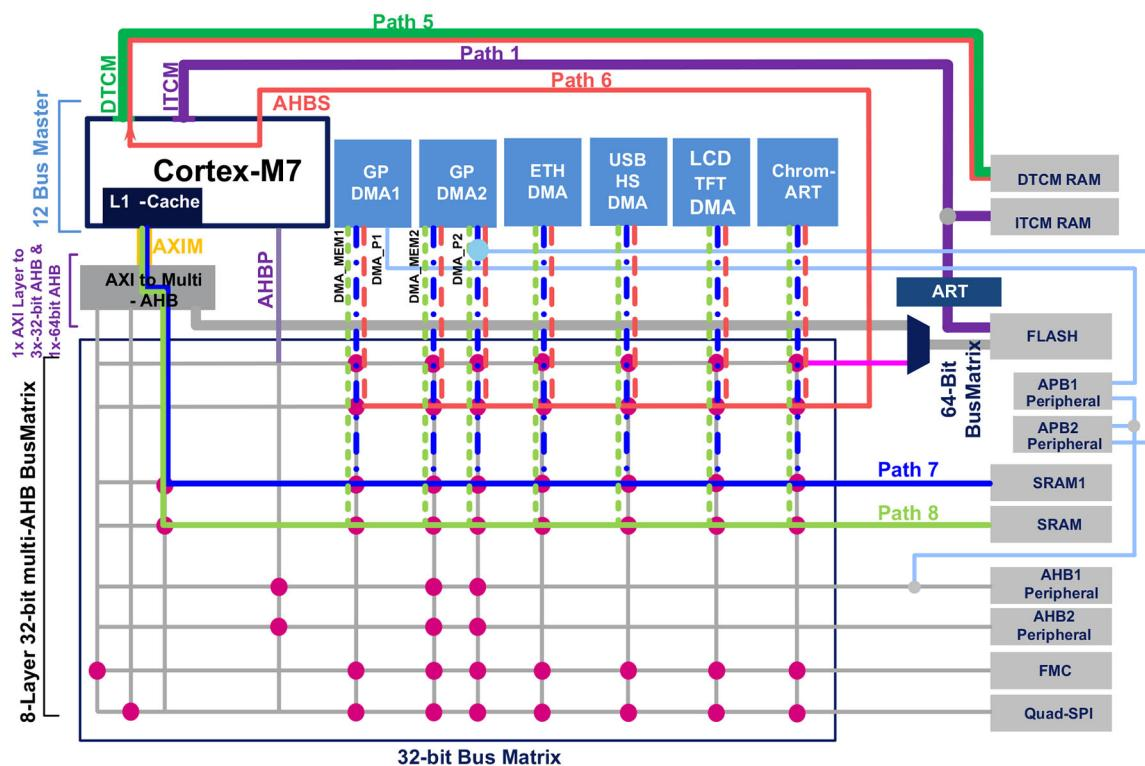

Figure 21.5: The four SRAM memories available in STM32F7 microcontrollers
Looking at Figure 21.5¹², there is another important thing to note. As you can see, STM32F7/H7 microcontrollers offer four distinct SRAM memories, accessible through three separated paths:
- The instruction RAM (ITCM-RAM), mapped at the address 0x0000 0000 and accessible only by the core, that is, through Path 1 in Figure 21.5. It is accessible by bytes, half-words (16 bits), words (32 bits) or double words (64 bits). The ITCM-RAM can be accessed at a maximum CPU clock speed without latency. The ITCM-RAM is protected from a bus contention since only the CPU can access to this RAM region. The ITCM-RAM plays the same role of the CCM memory
- The **data RAM (DTCM-RAM)**, mapped on the TCM interface at the address `0x2000 0000` and accessible by all AHB masters from the AHB bus Matrix: by the CPU through the DTCM bus (Path 5 in **Figure 21.5**) and by DMAs through the specific AHBS “bridge” in the Cortex-M7 core (Path 6 in **Figure 21.5**). It is accessible by bytes, half-words (16 bits), words (32 bits) or double words (64 bits). The DTCM-RAM is accessible at a maximum CPU clock speed without latency. The concurrent accesses to the DTCM-RAM by the masters (core and DMAs) and their priorities can be handled by the slave control register of the Cortex-M7 core (`Cortex_M7_AHBSCR` register). A higher priority can be given to the CPU to access the DTCM-RAM versus the other masters (DMAs). For more details of this register, please refer to “ARM Cortex-M7 processor Technical Reference Manual”.
- The **SRAM1**, accessible by all the AHB masters from the AHB bus Matrix, that is, all general purpose DMAs as well as dedicated DMAs. The SRAM1 is accessible by bytes, half-words (16 bits) or words (32 bits). Refer to **Figure 21.5** (Path 7) for possible SRAM1 accesses. It can be used for the data load/store as well as the code execution (even if it does not offer any specific performance boost).
- The **SRAM2**, accessible by all the AHB masters from the AHB bus matrix. All the general purpose DMAs as well as the dedicated DMAs can access to this memory region. The SRAM2 is accessible by bytes, half-words (16 bits) or words (32 bits). Refer to **Figure 21.5** (Path 8) for possible SRAM2 accesses. It can be used for the data load/store as well as the code execution (even if it does not offer any specific performance boost).